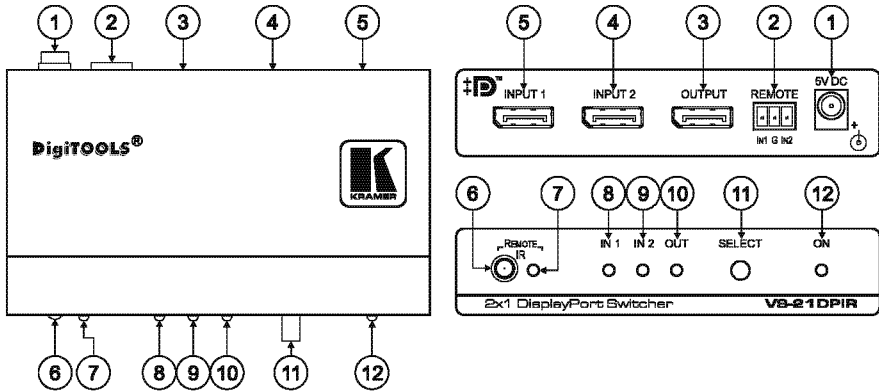

Figure 1: VS-21DPIR 2x1 DisplayPort Switcher
Figure 1 and Table 1 define the **VS-21DPIR 2x1 DisplayPort Switcher**:
1. Point the remote control transmitter at the remote receiver (item 10 in Figure 1 / Table 1) and press the GROUP key.
2. Press key 11.